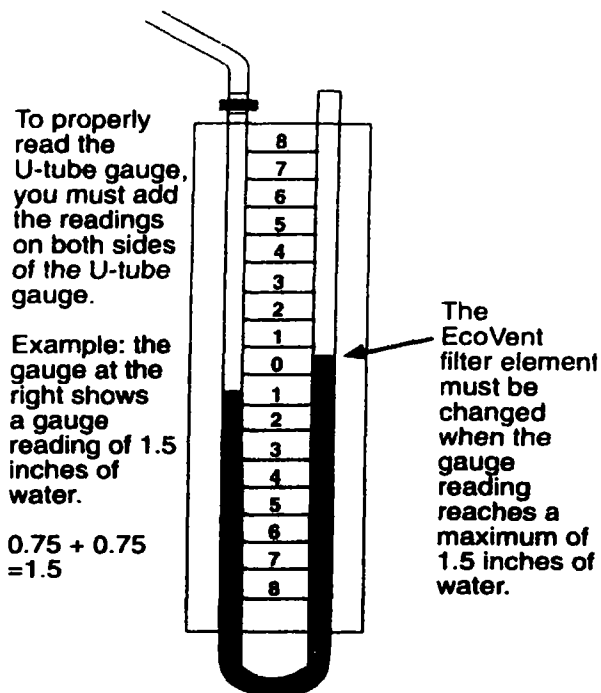

Figure 8 • U-tube Manometer Gauge Reading At Filter Element Changeout
- Monitor the reading on the manometer. When it reaches a reading of 1.5" H₂O positive pressure (see figure 8) replace the EcoVent element, as shown in the Maintenance Section.